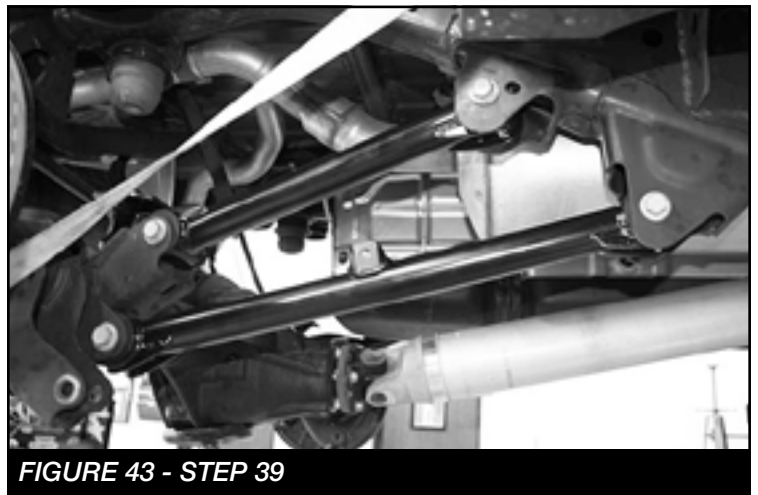

FIGURE 43 - STEP 39
39. Remove the factory lower links and save hardware. Install the new FT44464BK (Lower link arms) using the factory hardware. Torque to 160 ft-lbs. **SEE FIGURE 43**